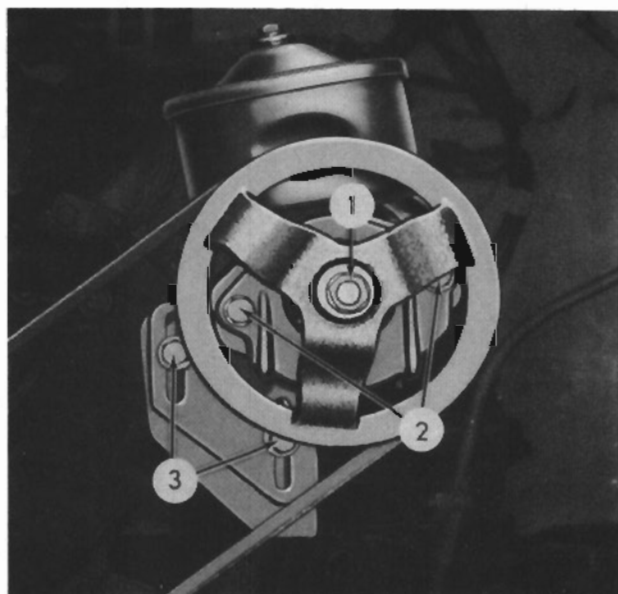

FIG. 83
On the 56B and 56H models, loosen the pulley retaining nut (1, Fig. 83). Loosen the support bracket mounting cap screws (3) to allow the assembly to move downward to take the tension off the belt. On the 56J, although a different bracket is used, the mounting screws are at the same location but the upper screw is used as a pivot and only the lower screw moves in a slot. Slip the belt off the pulley, remove pulley retaining nut, and remove the pulley. Remove the pump body mounting screws (2) and remove the pump.